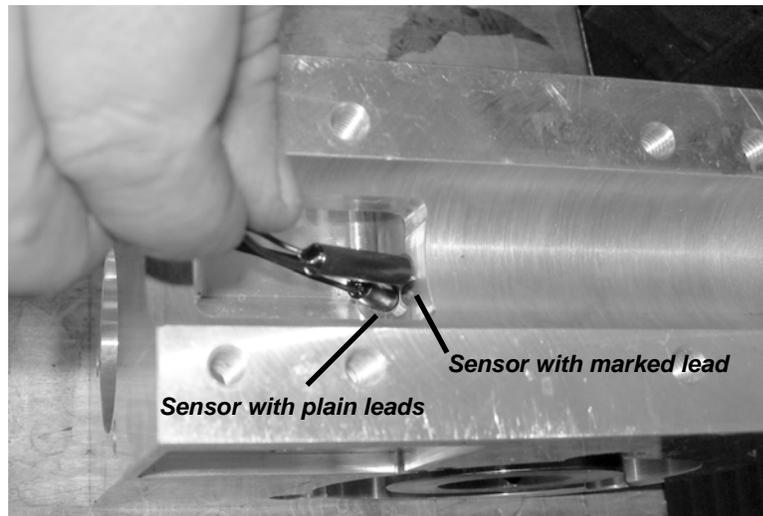

Figure 4-10. Insert the two sensors into the holes leading into the machine shaft cavity.
6. Identify sensor position. The sensor marked with a red band senses rotation and must be placed in the proper bore as indicated in Figures 4-10 & 4-11.